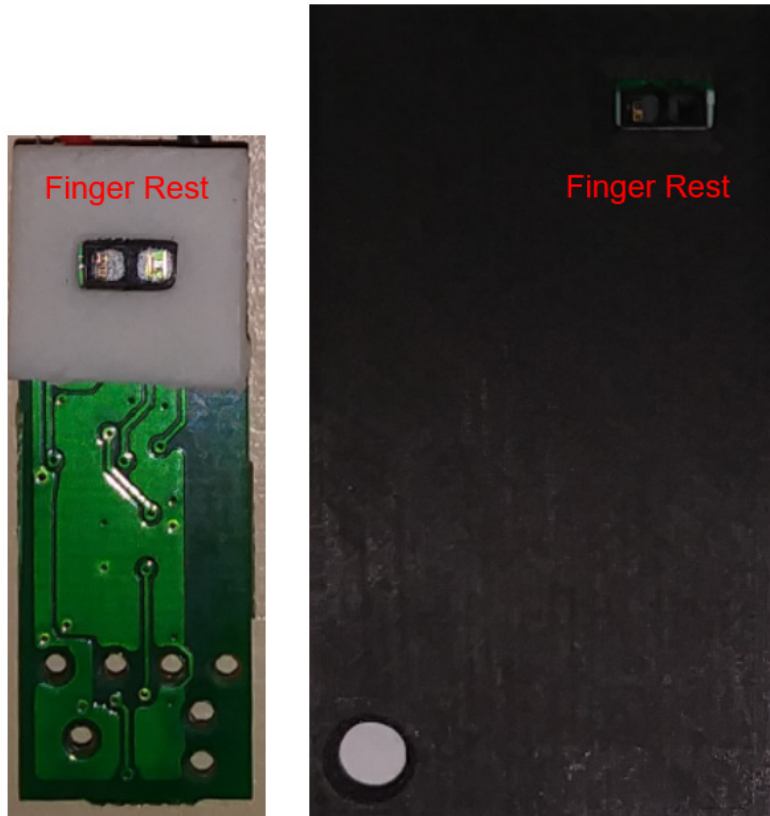

Figure 7. Finger Rest Examples
6. A Finger Rest around the sensor (examples are shown in Figure 7) distributes the force between sensor and finger, improving the blood flow and accuracy of measurement.